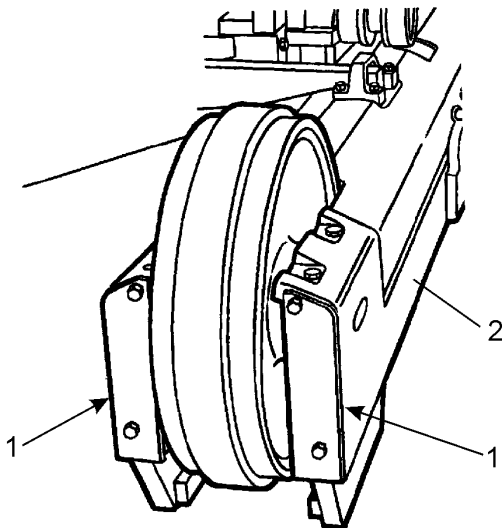

Fig. 14.11. Front Idler
1. Remove the track chain as described in SECTION 15. It is only necessary to lift chain free from front idler. Remove front idler covers (1, Fig. 14.11) from the track frame (2).